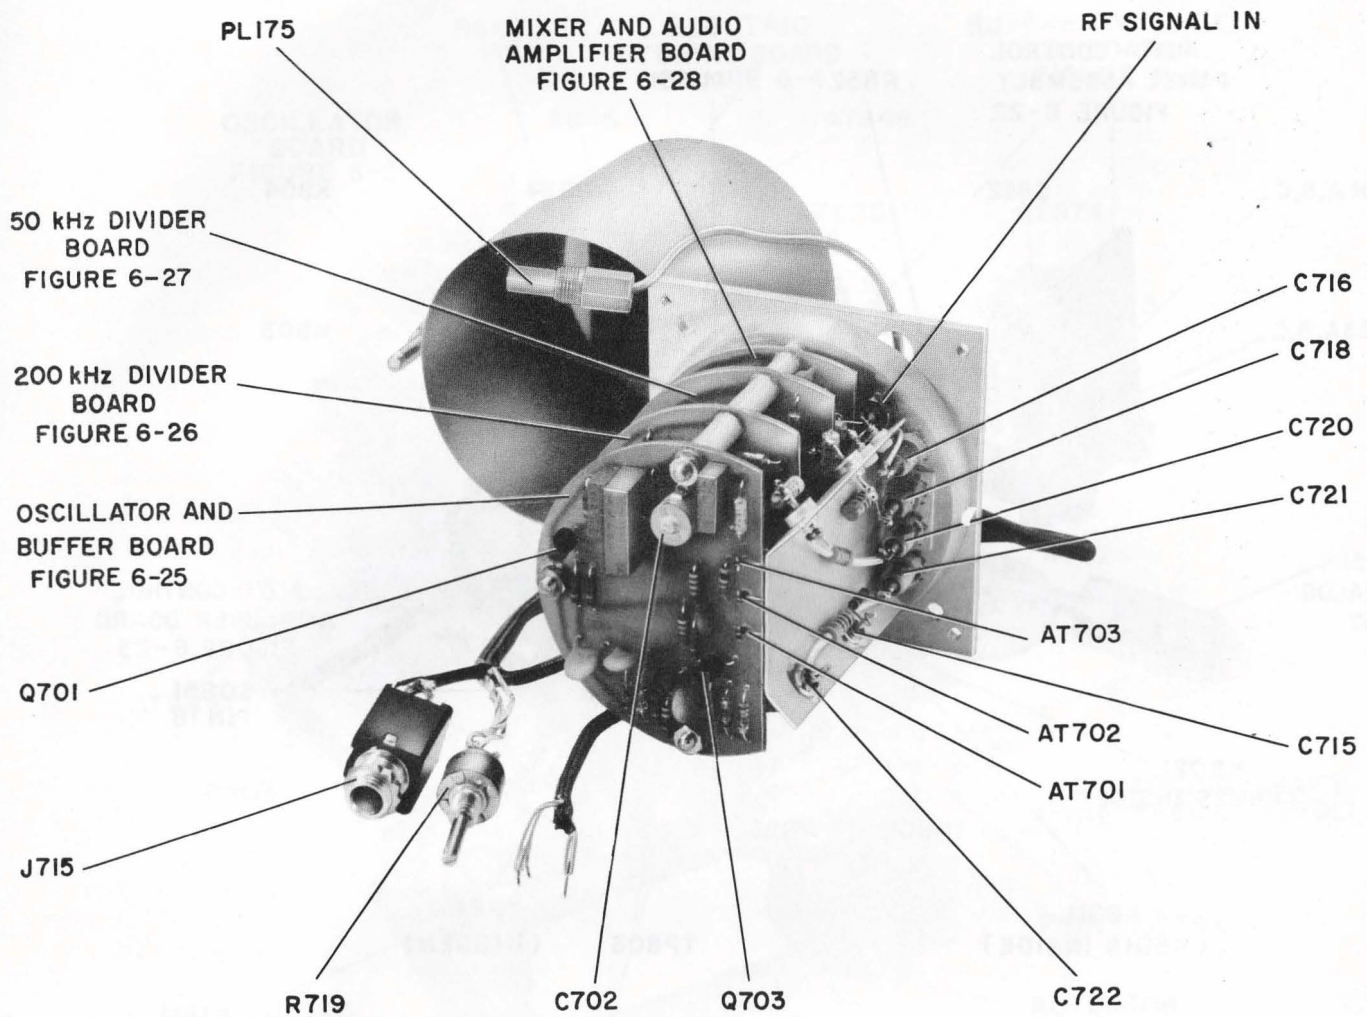

Figure 5-10. Crystal calibrator.
5.3.8 CRYSTAL CALIBRATOR (Figure 5-10).